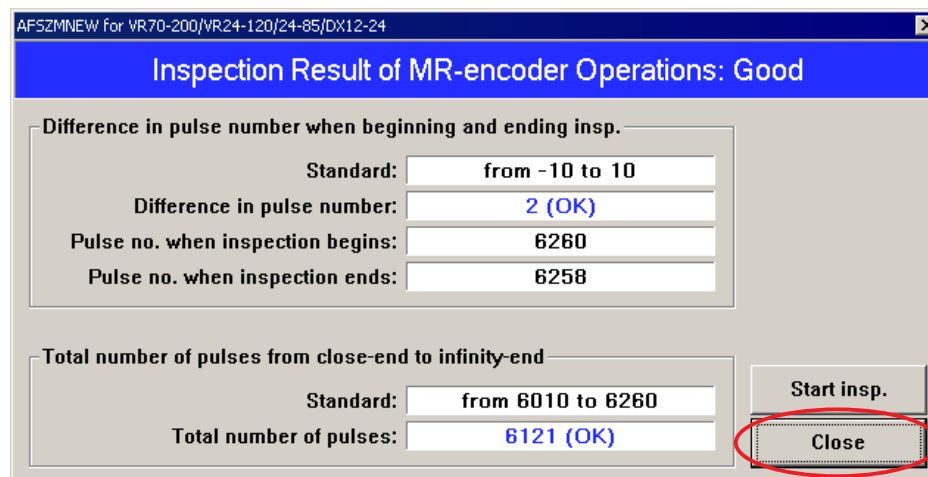

Fig.2
- ② When the operation check is completed, the result is displayed as shown in "Fig.2".